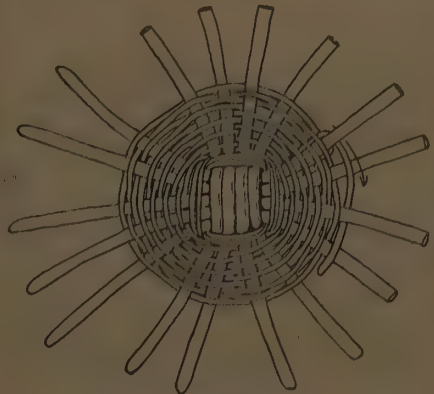

FIG. 14
12. Fasten the end of the weaver by pushing it down into the weaving back of and at the right of a spoke (Fig. 14).